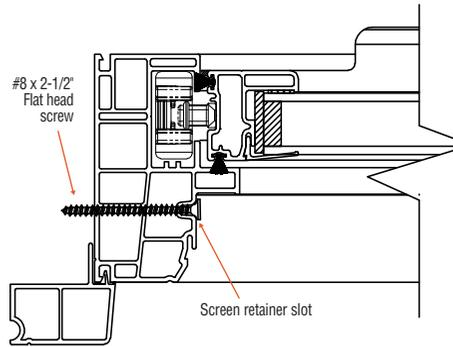

fig. 27
FOR SINGLE-HUNG WINDOWS (fig. 27 & 28)
b. Fasten the bottom jambs by removing the screen and inserting fasteners using #8 x 2-1/2" Flat head screw through the screen retainer slot on each side, replace screen. (fig. 27)